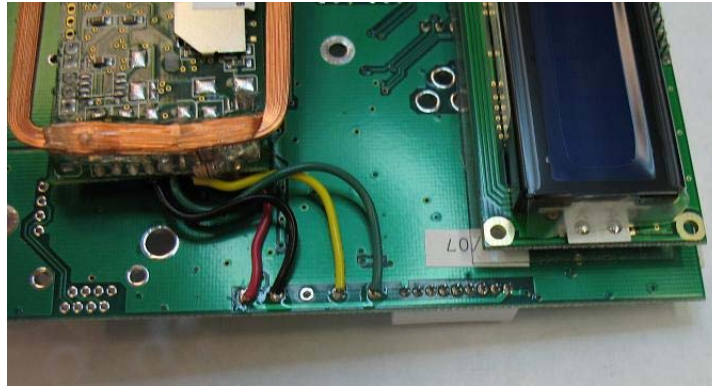

Figure 5.
10. Per Figure 5, trim the wires to the proper length and strip off 1/8" from the free ends. Solder the wires from Indala cable harness as follows: